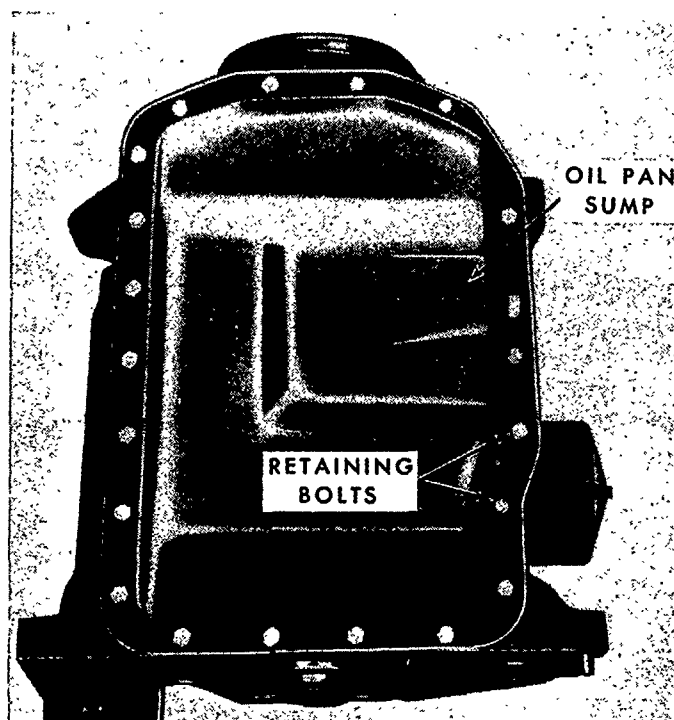

Figure 38
2. Remove the oil pan sump retaining bolts, Figure 38, and remove the oil pan sump.